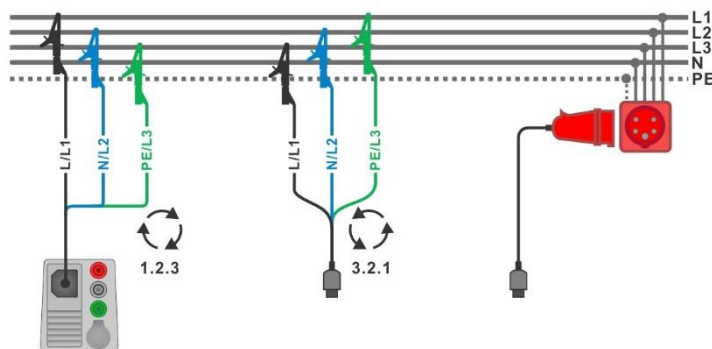
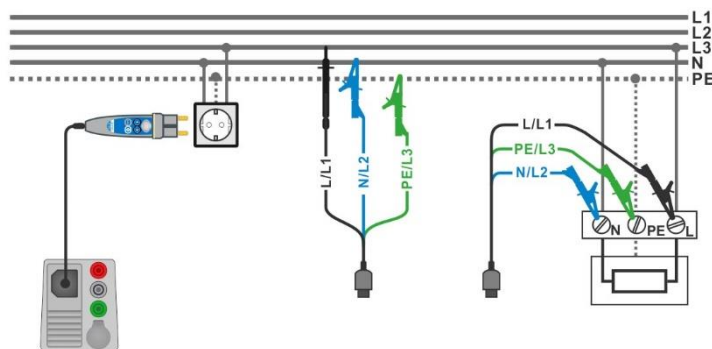

Figure 7.2: Connection of 3-wire test lead and optional adapter in three-phase system
Figure 7.3: Connection of Plug commander and 3-wire test lead in single-phase system
- › Connect test leads to object under test (see *Figure 7.2* and *Figure 7.3*).